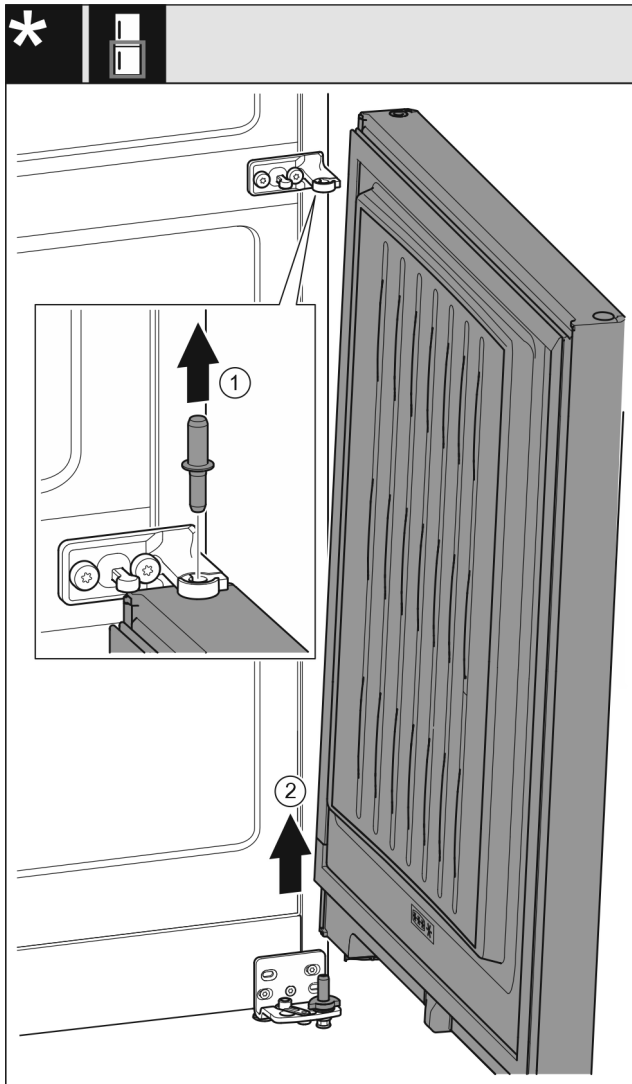

Fig. 8
- ▶ Pull out the bolts upward. Fig. 8 (1)
- ▶ Swing the door out, pull it upward and set it aside. Fig. 8 (2)